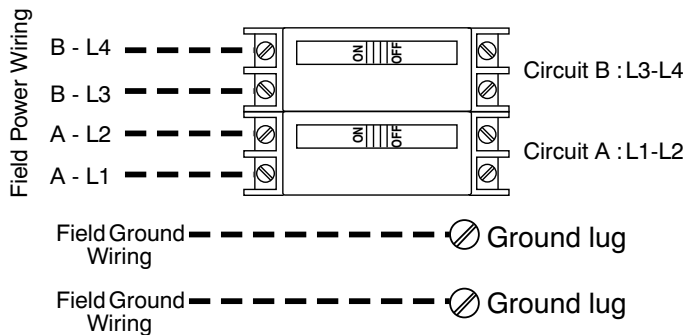

Fig. 15 – 12, 15 & 20 kW Circuit Breakers
- b. Units with 12kW, 15kW and 20kW heaters are wired for dual-supply circuits only (Fig. 15).